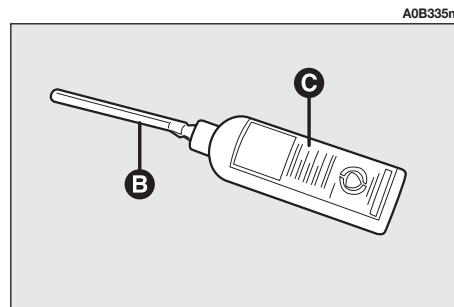

fig. 14
2) Screw the filling pipe (**B-fig. 14**) to the bottle (**C**).